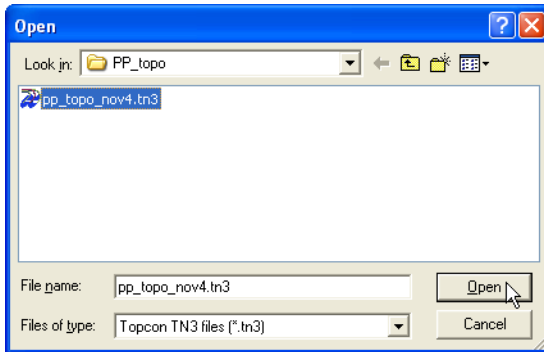

Figure 9-8. Select Surface to Compare
2. On the **Open** dialog box, navigate to the folder in which the file resides, select the *Files of type* from the drop down list (either TN3 files, PL3 files, or RD3 files), select the desired file and click **OK** (Figure 9-8).